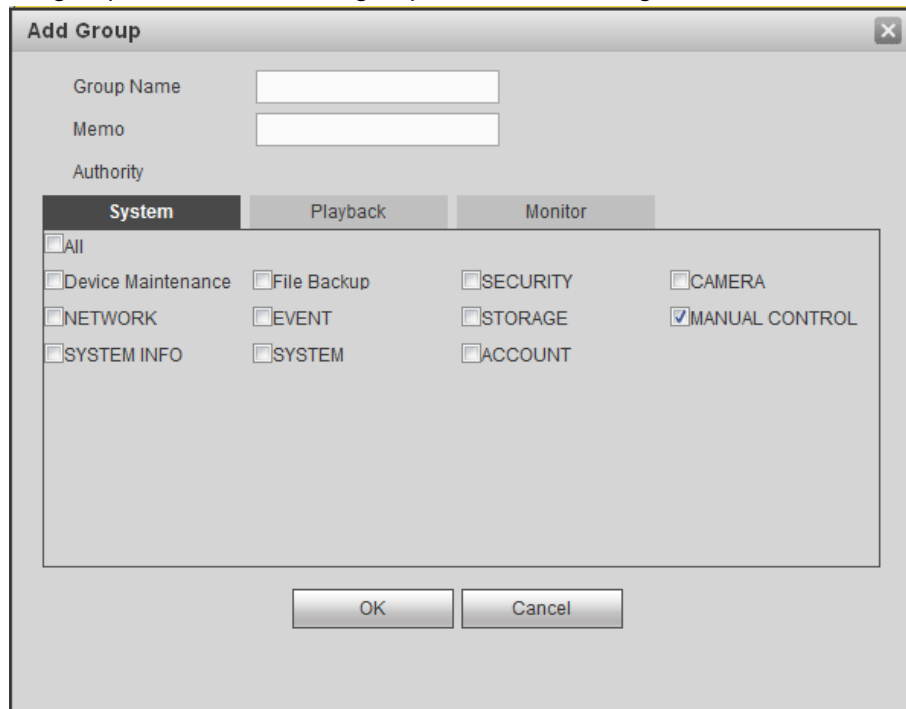

Figure 5-149
Step 1 Click Add group button. Enter add group interface. See Figure 5-149.